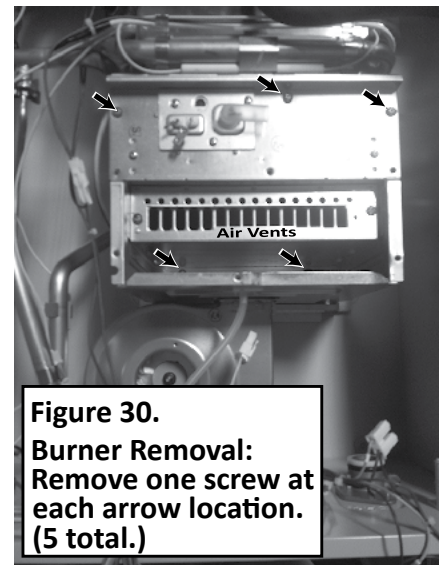

Figure 30.
- 6.1 Remove the five (5) pan-head Phillips screws that secure the burner to the combustion chamber. There are three at the top of the burner and two more at the bottom (toward back of combustion chamber). If the screws at the bottom are difficult to remove, lift the burner while turning the screws. (See Figure 30.)
- 6.2.1 Grasp an oval air vent on either side of the burner with a pair of pliers. (See "Air Vents" in Figure 30.)